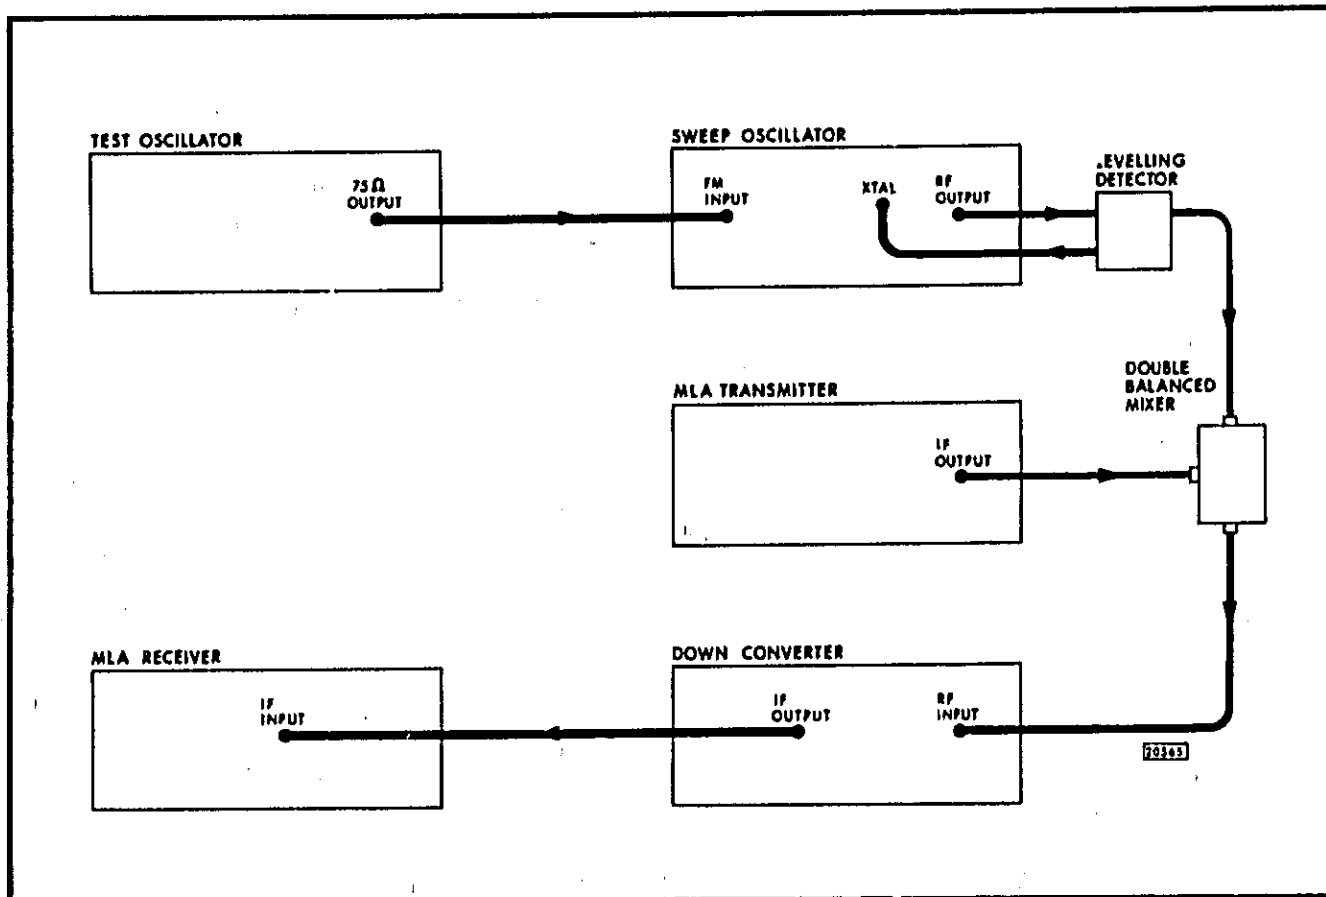

Figure 3-2 Equipment Set-up for Group Delay Response Test
9. Reconnect the test oscillator output to the sweep oscillator and adjust the test oscillator output amplitude until a swept IF display across ±25MHz is obtained. The equipment set-up should now be as shown in Figure 3-2.